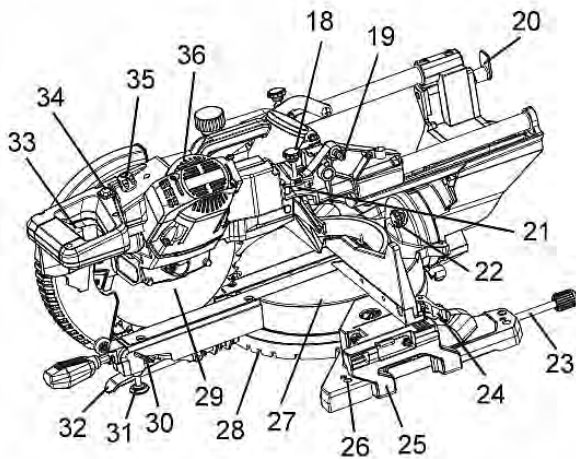

Fig. 4: Chop- and Mitre Saw KGZ 2540 Vario
Step 2: Press the hold-down latch (Item 19, Fig. 4) into the locking opening.